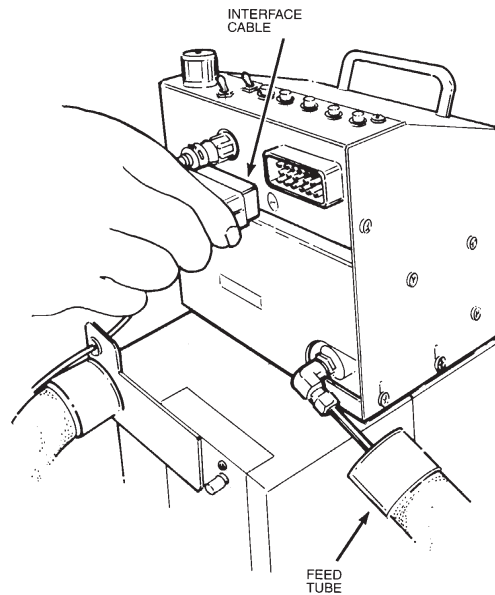

Figure 3.3
4. Disconnect the interface cable. See Figure 3.3 on the next page.